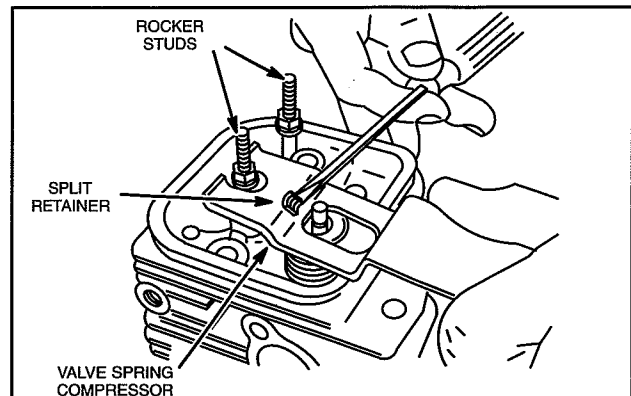

Fig. 21 – Install Retainers
6. Compress valve spring with Tool #19347 and install split retainers, Fig. 21.